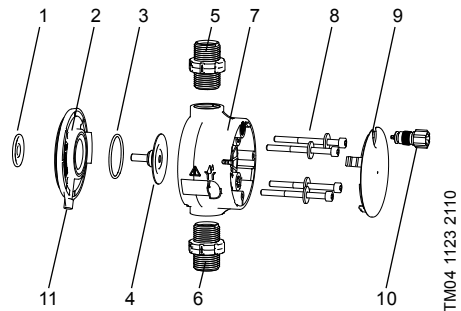

Fig. 10 Dosing head, exploded view
Daily	<p>Check, if liquid leaks from the drain opening (fig. 10, pos. 11) and if the drain opening is blocked or soiled. If so, follow the instructions given in section 7.4 Diaphragm breakage.</p> <p>Check, if liquid leaks from the dosing head or valves. If necessary, tighten dosing head screws with a torque wrench at 4 Nm. If necessary, tighten valves and cap nuts, or perform service (see 7.3 Perform service).</p>
If the diaphragm leaks or is broken, dosing liquid escapes from the drain opening (fig. 10, pos. 11) on the dosing head.
In case of diaphragm breakage, the safety diaphragm (fig. 10, pos. 1) protects the pump housing against ingress of dosing liquid.
When dosing crystallising liquids the drain opening can be blocked by crystallisation. If the pump is not taken out of operation immediately, a pressure can build up between the diaphragm (fig. 10, pos. 4) and the safety diaphragm in the flange (fig. 10, pos. 2). The pressure can press dosing liquid through the safety diaphragm into the pump housing.
This section refers to fig. 10.